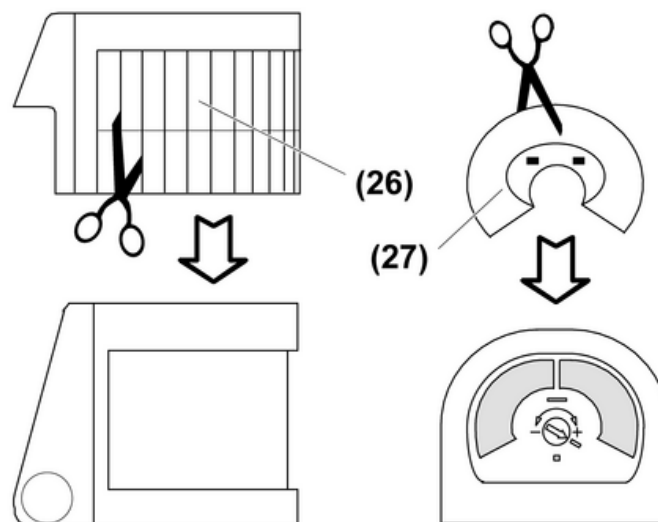

Figure 25: Cutting out the cover panel
- Cut out the cover panel (26) (Figure 25).
- On the 240° System Sensor it is also possible to fit a panel (27) on the creep zone protection.
- i** If the 240° System Sensor is installed on a flat wall of a building, the detection area must be limited to 180° using the cover panel (26). Otherwise detection of the building wall at extremely short range will lead to faulty switching.